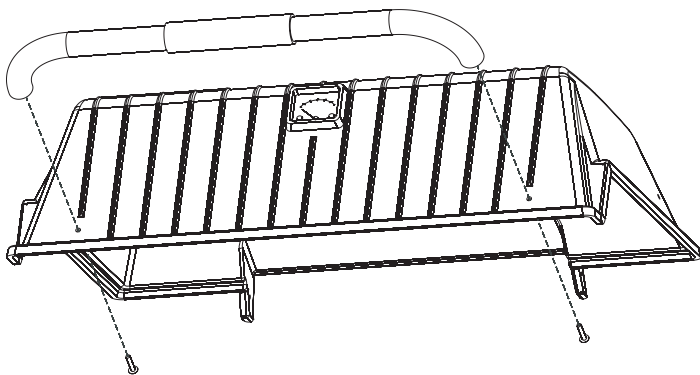

Figure 11
10. Fasten the lid handle to the grill body top (1) with two #10-24 x 1" screws. See Figure 11.